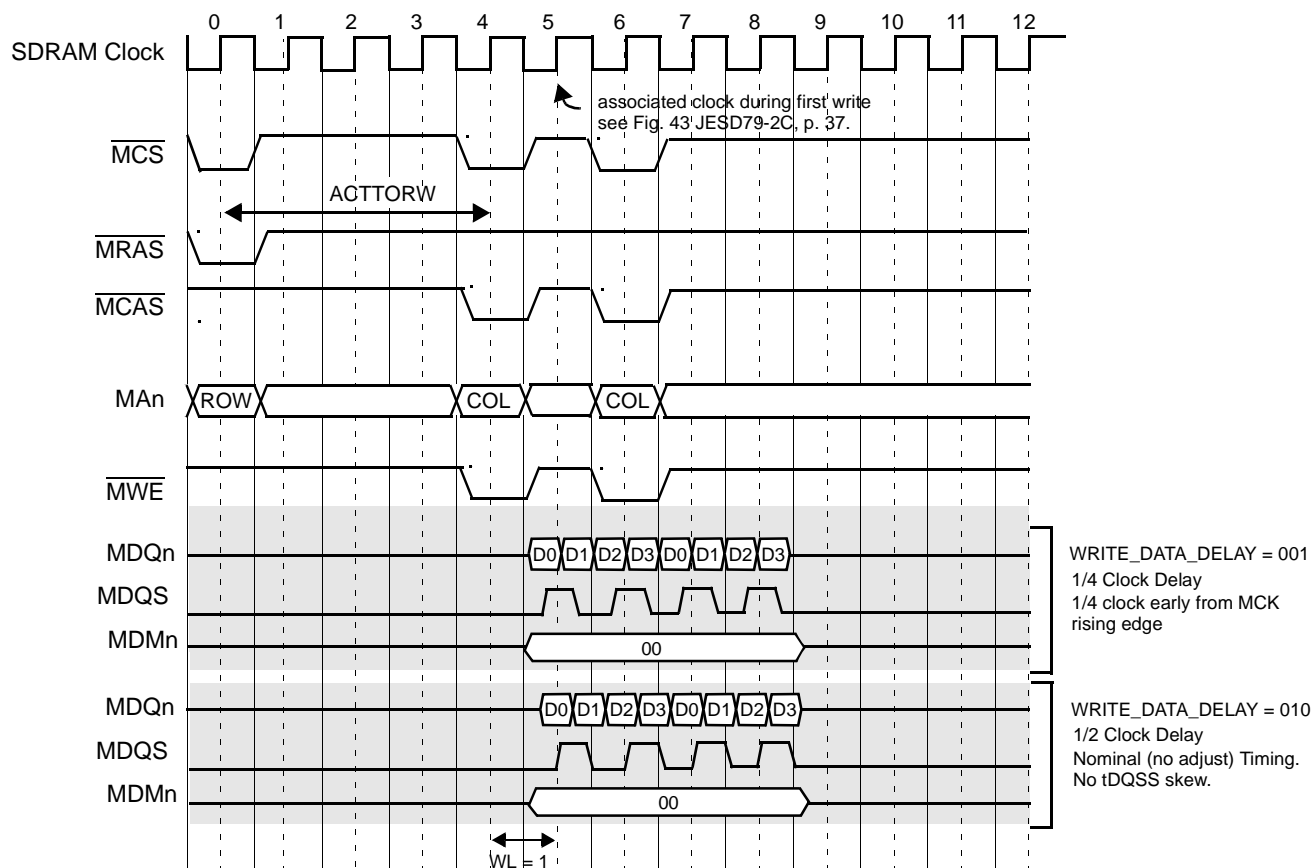

Figure 16. Write Data Delay Timing in `TIMING_CFG_2[WRITE_DATA_DELAY]`
- Write Data Delay `TIMING_CFG_2[WRITE_DATA_DELAY]`. The tDQSS specification must be satisfied for each positive DQS transition to its associated clock edge during write cycles. tDQSS must be within $\pm 25\%$ of SDRAM clock. This parameter adjusts timing of DQS and data from its associated clock edge during write cycles. The adjust timing range is from 1/2 clock early to 1 clock late for `DDR_SDRAM_CLK_CNTL[CLK_ADJUST] = 0100` as shown in **Figure 16**. The adjust timing range step sizes are in 1/4 SDRAM clock periods. Using the same clock delay setting for `TIMING_CFG_2[WRITE_DATA_DELAY]` and `DDR_SDRAM_CLK_CNTL[CLK_ADJUST]` ideally eliminates tDQSS skew. **Figure 16** illustrates the timing definition of `WRITE_DATA_DELAY` for a `CLK_ADJUST` 1/2 clock delay.